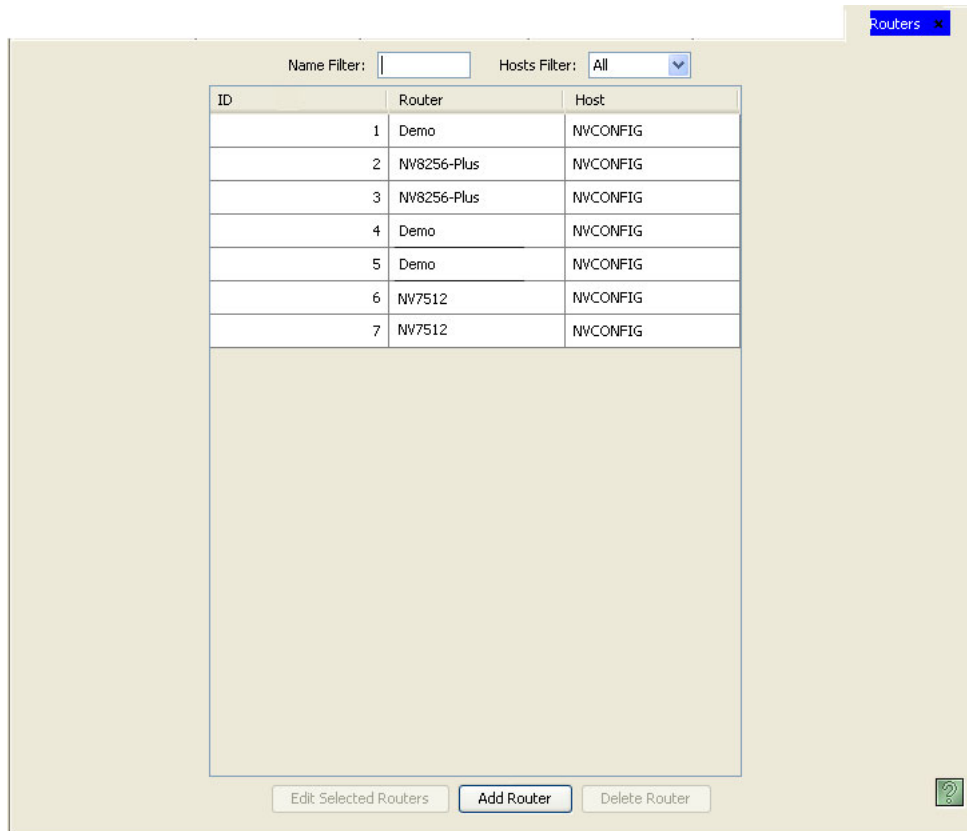

Figure 7-21. Routers Page
- 2 From the Navigation area, select the 'Configuration' pane and then 'Routers'. The 'Routers' page displays, as shown in Figure 7-21.